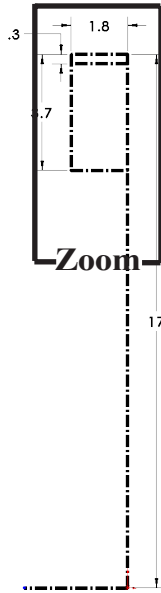

Fig. 5
Step 1. Zoom in around **top construction lines**, **Fig. 5**. To **zoom**, hold down **Shift** key and drag with middle mouse button (wheel). To **pan**, hold down **Ctrl** key and drag with middle mouse button (wheel).